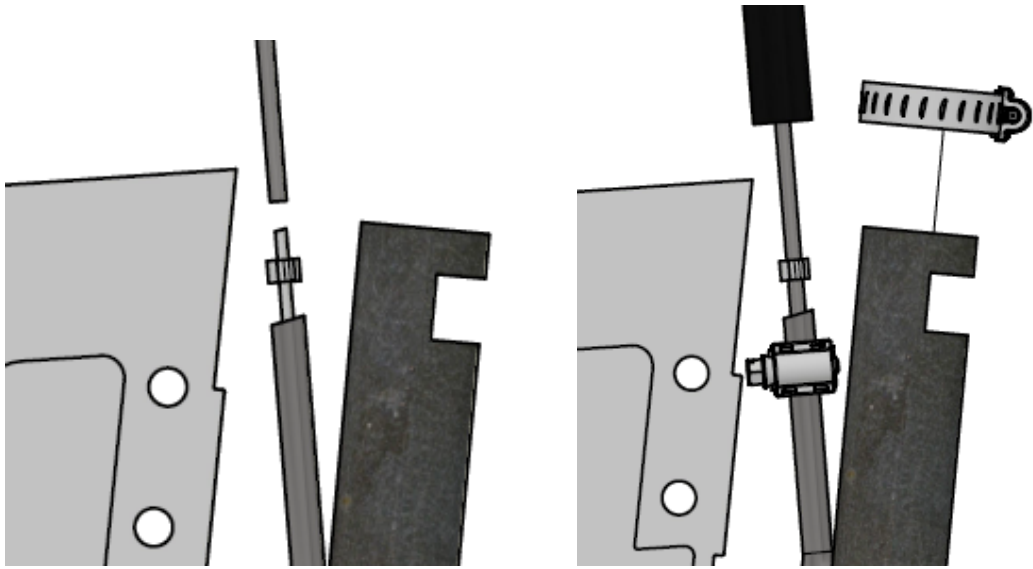

Figure 4: Install MaxQuip connection
- 4) Insert the MaxQuip line through the hose crimp and slide over the small MaxQuip tube as shown in Figure 4